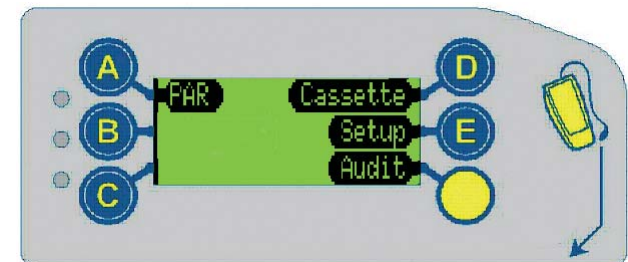

Fig. 8
- The yellow button is the mode key. While the Coin Manager is in idle/normal operation, “Menu” will appear next to the mode key. Press the mode key to access the menu screen. The following options will be presented on this screen: Cassette (configuring), PAR, Audit and Setup. Press the corresponding button beside the highlighted option to access that option (See Fig. 8).